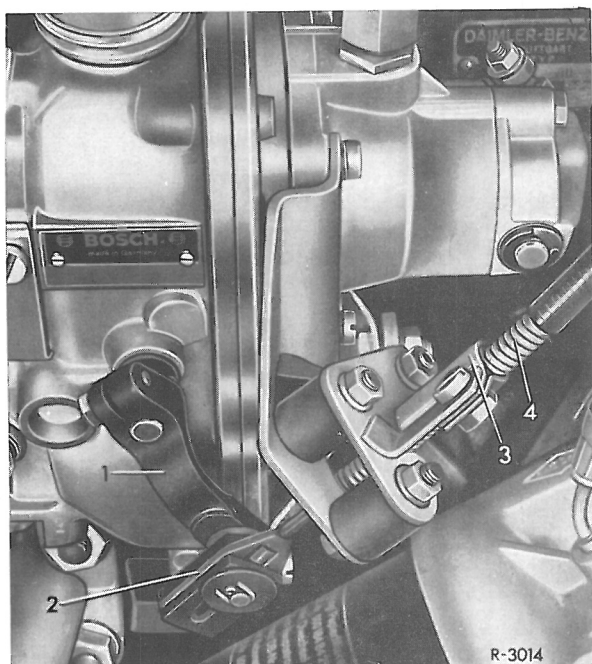

Fig. 07-41/1
**2** Detach connecting rod for the auxiliary mechanical control as well as starting and stopping cable at the injection pump adjusting lever. Unscrew screw in the retaining angle (3) and remove coil spring (4) with clamp (Fig. 07-41/1).
**3** Screw out hexagon nut at the bell-shaped support and fixing nuts at the front flange; then pull out the injection pump from the crankcase. Remove coupling sleeve from the injection pump drive collar or from the drive shaft (see Fig. 07-41/4).